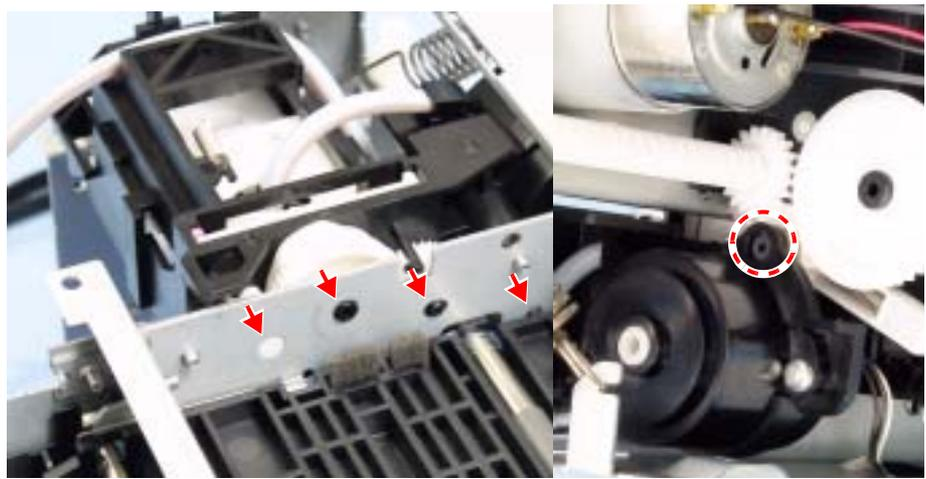

Figure 4-55. Installing the I/S Assy
- After installing the I/S Assy to the printer frame, make sure that its position is adjusted as shown in Fig. 4-55 .